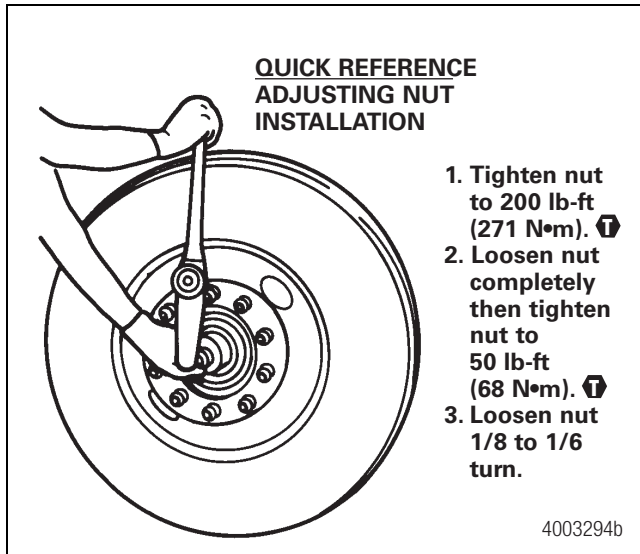

Figure 10.13
1. Install the washer and castellated nut. Tighten the nut to 200 lb-ft (271 N•m) while rotating the wheel end in both directions. Figure 10.13. **ⓘ**